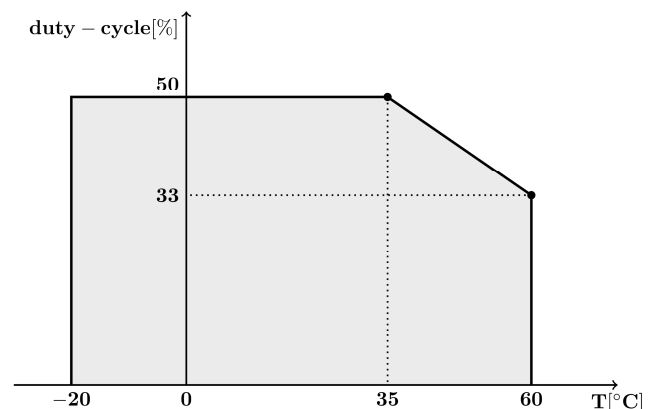

Fig. 6
- Duty cycle in 2 minutes	see Fig. 6